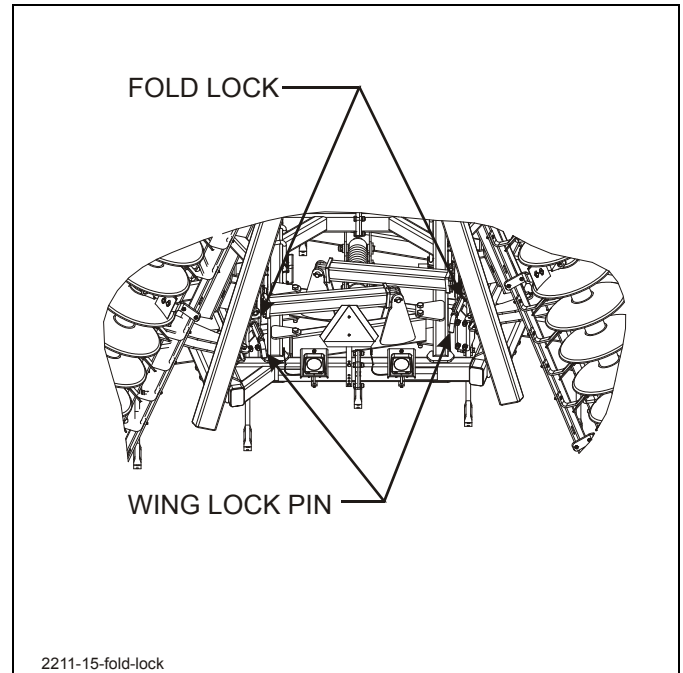

Figure 4-5: Position in Folded Position
- To fold/unfold the Ripoll, find a level area large enough to accommodate the Ripoll when it is fully unfolded. The tractor should be stopped and not moving with the unit fully raised (See Figures 4-5 and 4-6.)